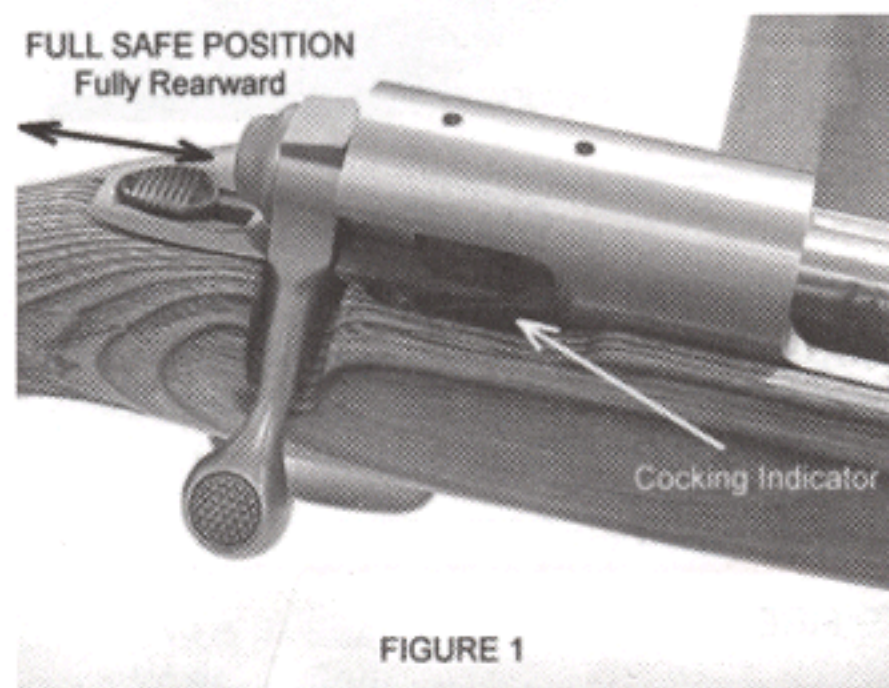

FIGURE 1
1. The safety is in the *FULL SAFE* position when it has been moved fully rearward, covering the red "F" (See *FIGURE 1*).